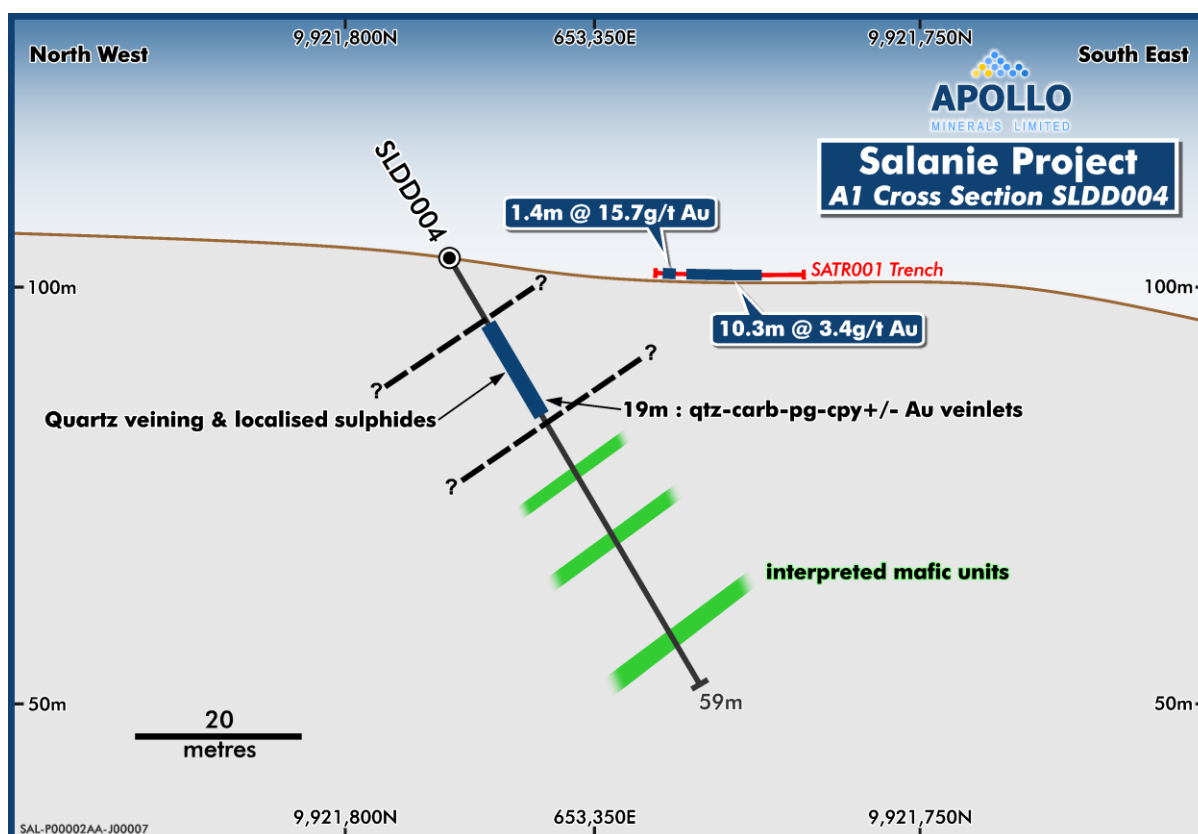

Figure 5 – Drill Section displaying SLDD004 at A1.
- Interpreted as extension to system in trench SATR001 (**10.3m @ 3.4g/t Au** and **1.4m @ 15.7 g/t Au**) (Figure 5);
- Company to undertake a one (1) for three (3) non-renounceable entitlements offer to raise approximately \$3.25 million (before costs).